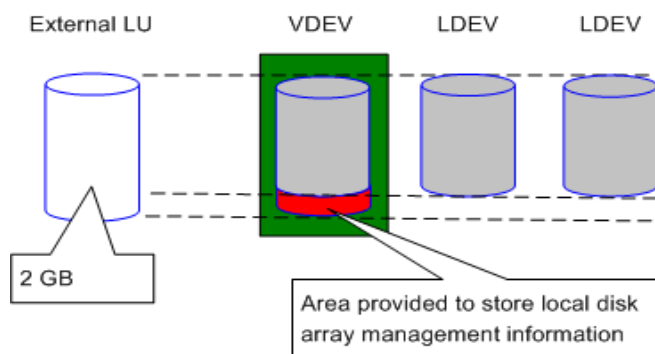

Figure 399 External LU capacity is smaller than basic capacity of specified emulation type
- Figure 399 shows an example where the original capacity of the external LU is smaller than the normal size of the XP12000 emulation type. In this example, since the resulting space is insufficient to create an XP12000 OPEN-3 LDEV, you can designate it as either an XP12000 OPEN-V or as an "OPEN-3 CVS" LDEV. If the external LU were an XP of OPEN-3 emulation type, the forfeiting of a